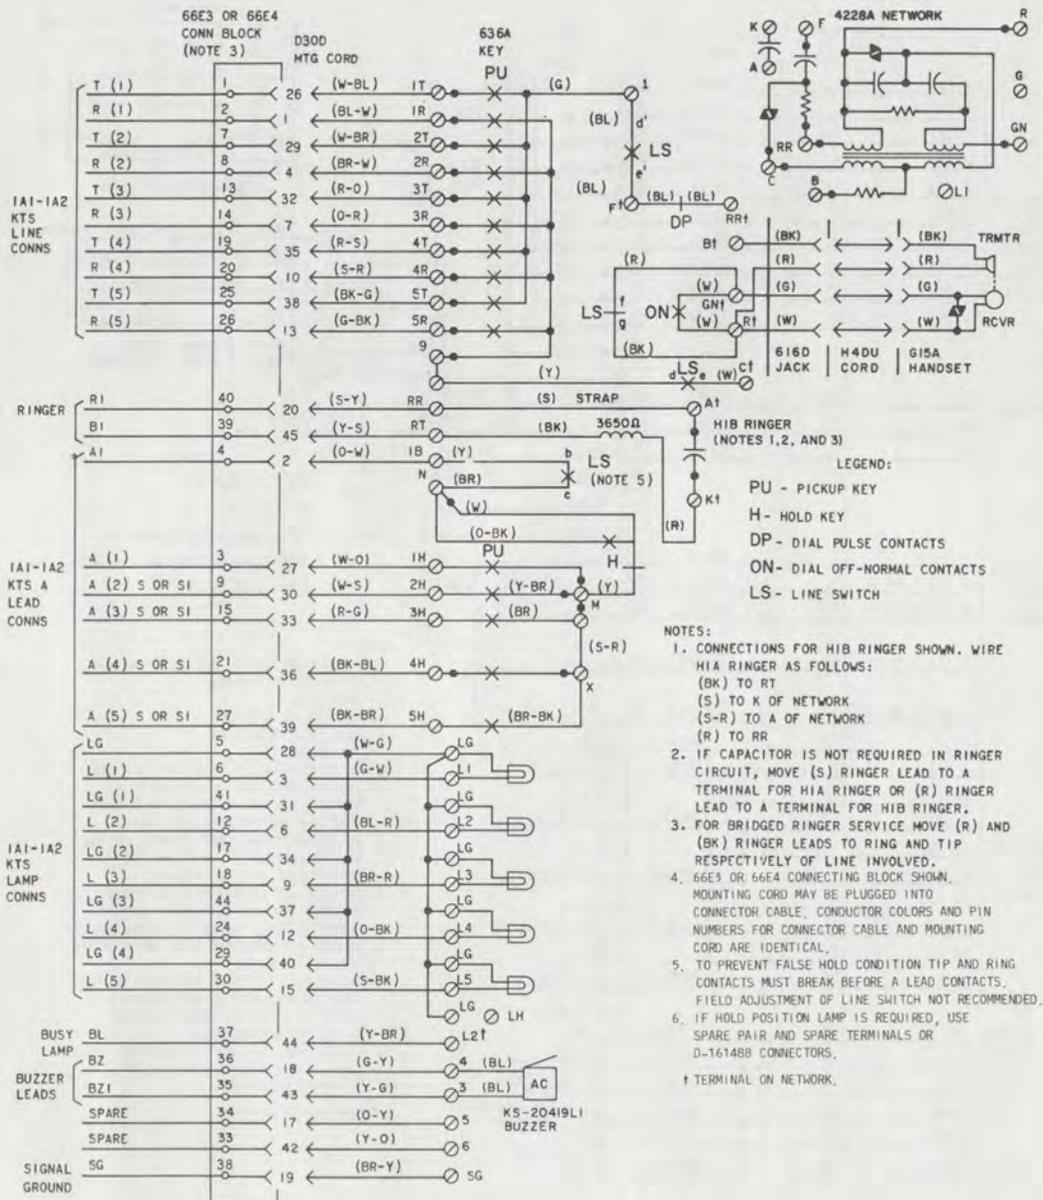

Fig. 5—564HLMS Telephone Set, Connections
- Add 564HLMS telephone set, Fig. 5
1.03 The 564HLMS telephone set is similar to the 564HLM (MD) telephone set except a new line switch assembly is provided in the 564HLMS which breaks both the tip and ring sides of the line. The MD sets only opened the ring side of the line.